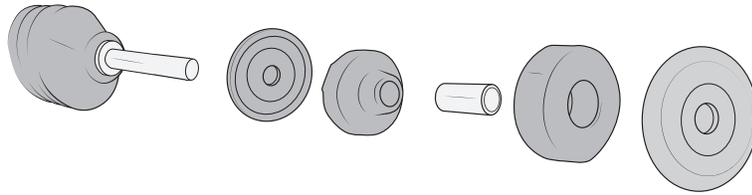

Figure 5
13. Assemble the shock bushings as shown (fig. 5) then install AEV shocks. Torque the lower bolt to **111 lb-ft**